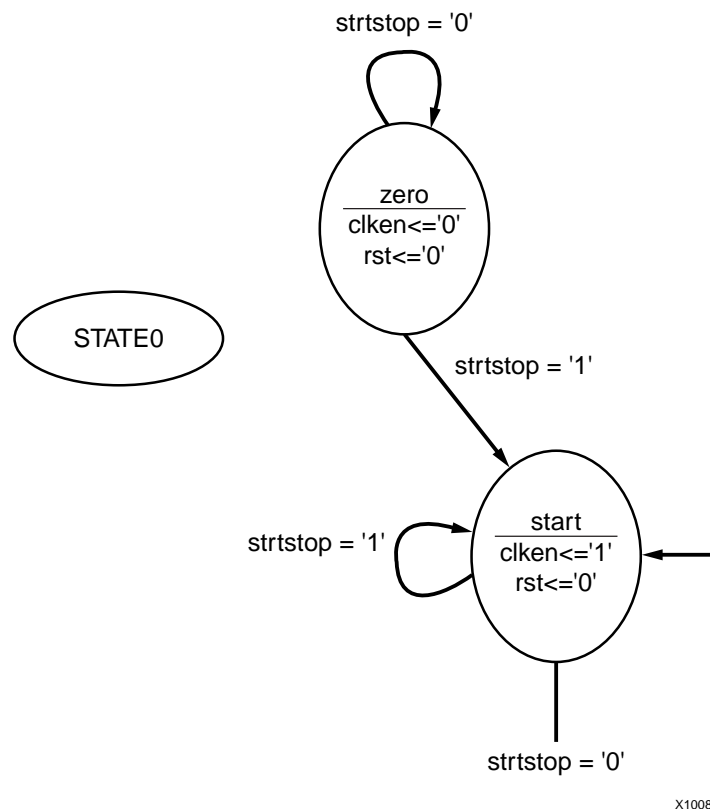

Figure 3-19: Adding the CLEAR State
2. Place the new state on the left-hand side of the diagram as shown in Figure 3-19. Click the mouse to place the state bubble.